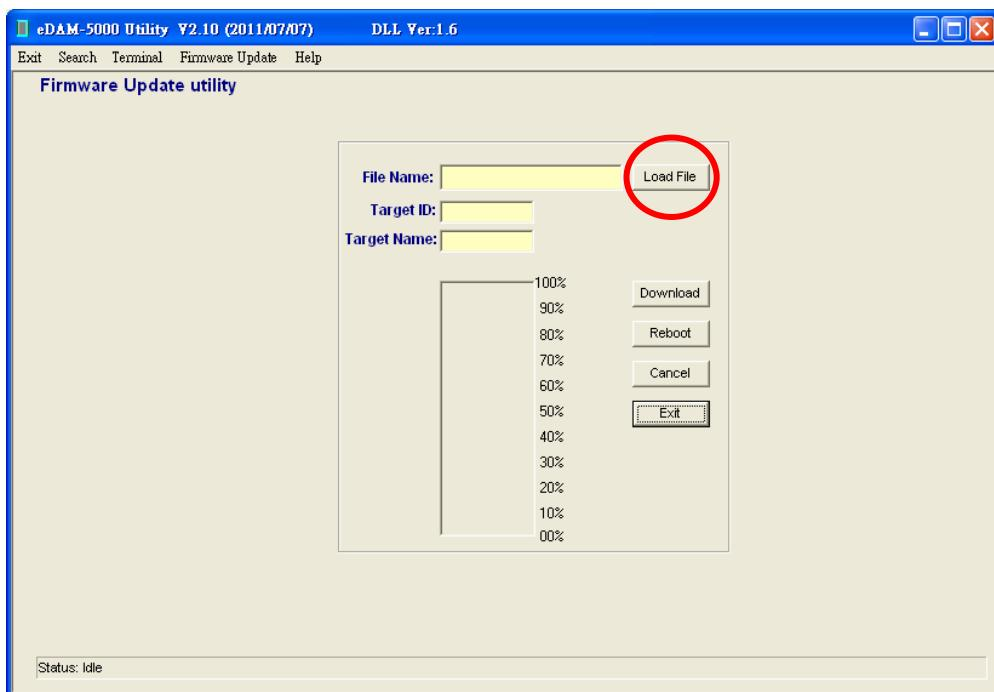

Figure 15-5
5. Click “Load File” button to load firmware file (see Figure 15-5)